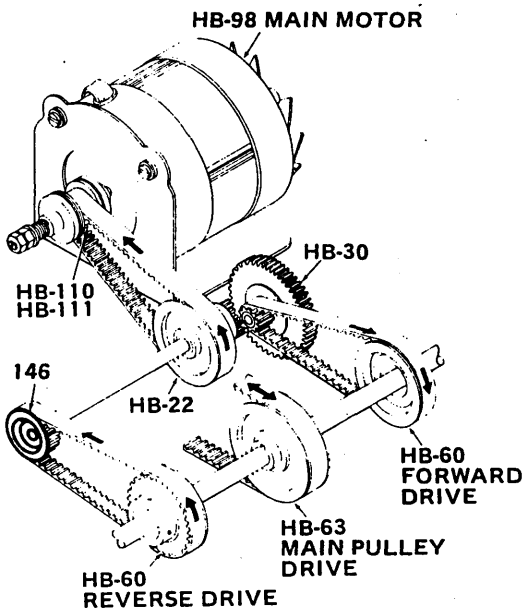

Figure 5-1. SERIES 101 DRIVE TRAIN
5.2.3.1 OperationA. MOTOR DRIVE CHAIN (FIGURE 5-1)